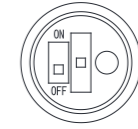

figure 3.2
Step 1: Open the metal plug and plastic plug counterclockwise with a screwdriver (figure 3.1), then slide the switch up and down to adjust the power controller, CCT controller or photocell controller in your demand. (figure 3.2)